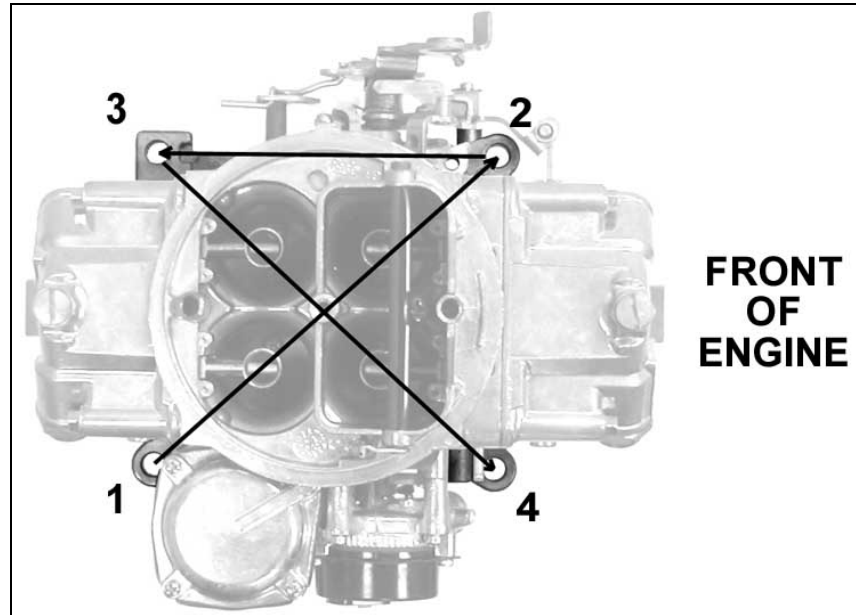

Figure 1—Carburetor hold-down nut torque sequence
- Place the carburetor on top of the flange gasket on the manifold. Install the hold down nuts and snug down progressively in a “crisscross” pattern (60-80 in./lbs.), as shown in Figure 1.